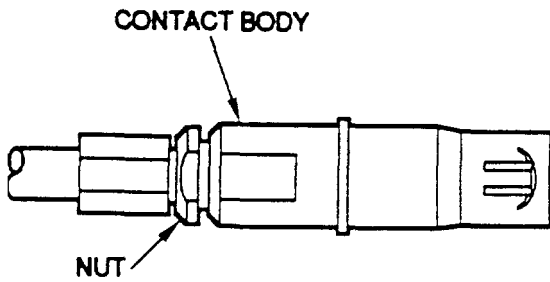

Figure 19. Mount Contact Body
c. Slide contact body over center contact assembly as shown in Figure 19. Thread nut into contact body until retainer is seated in contact body.